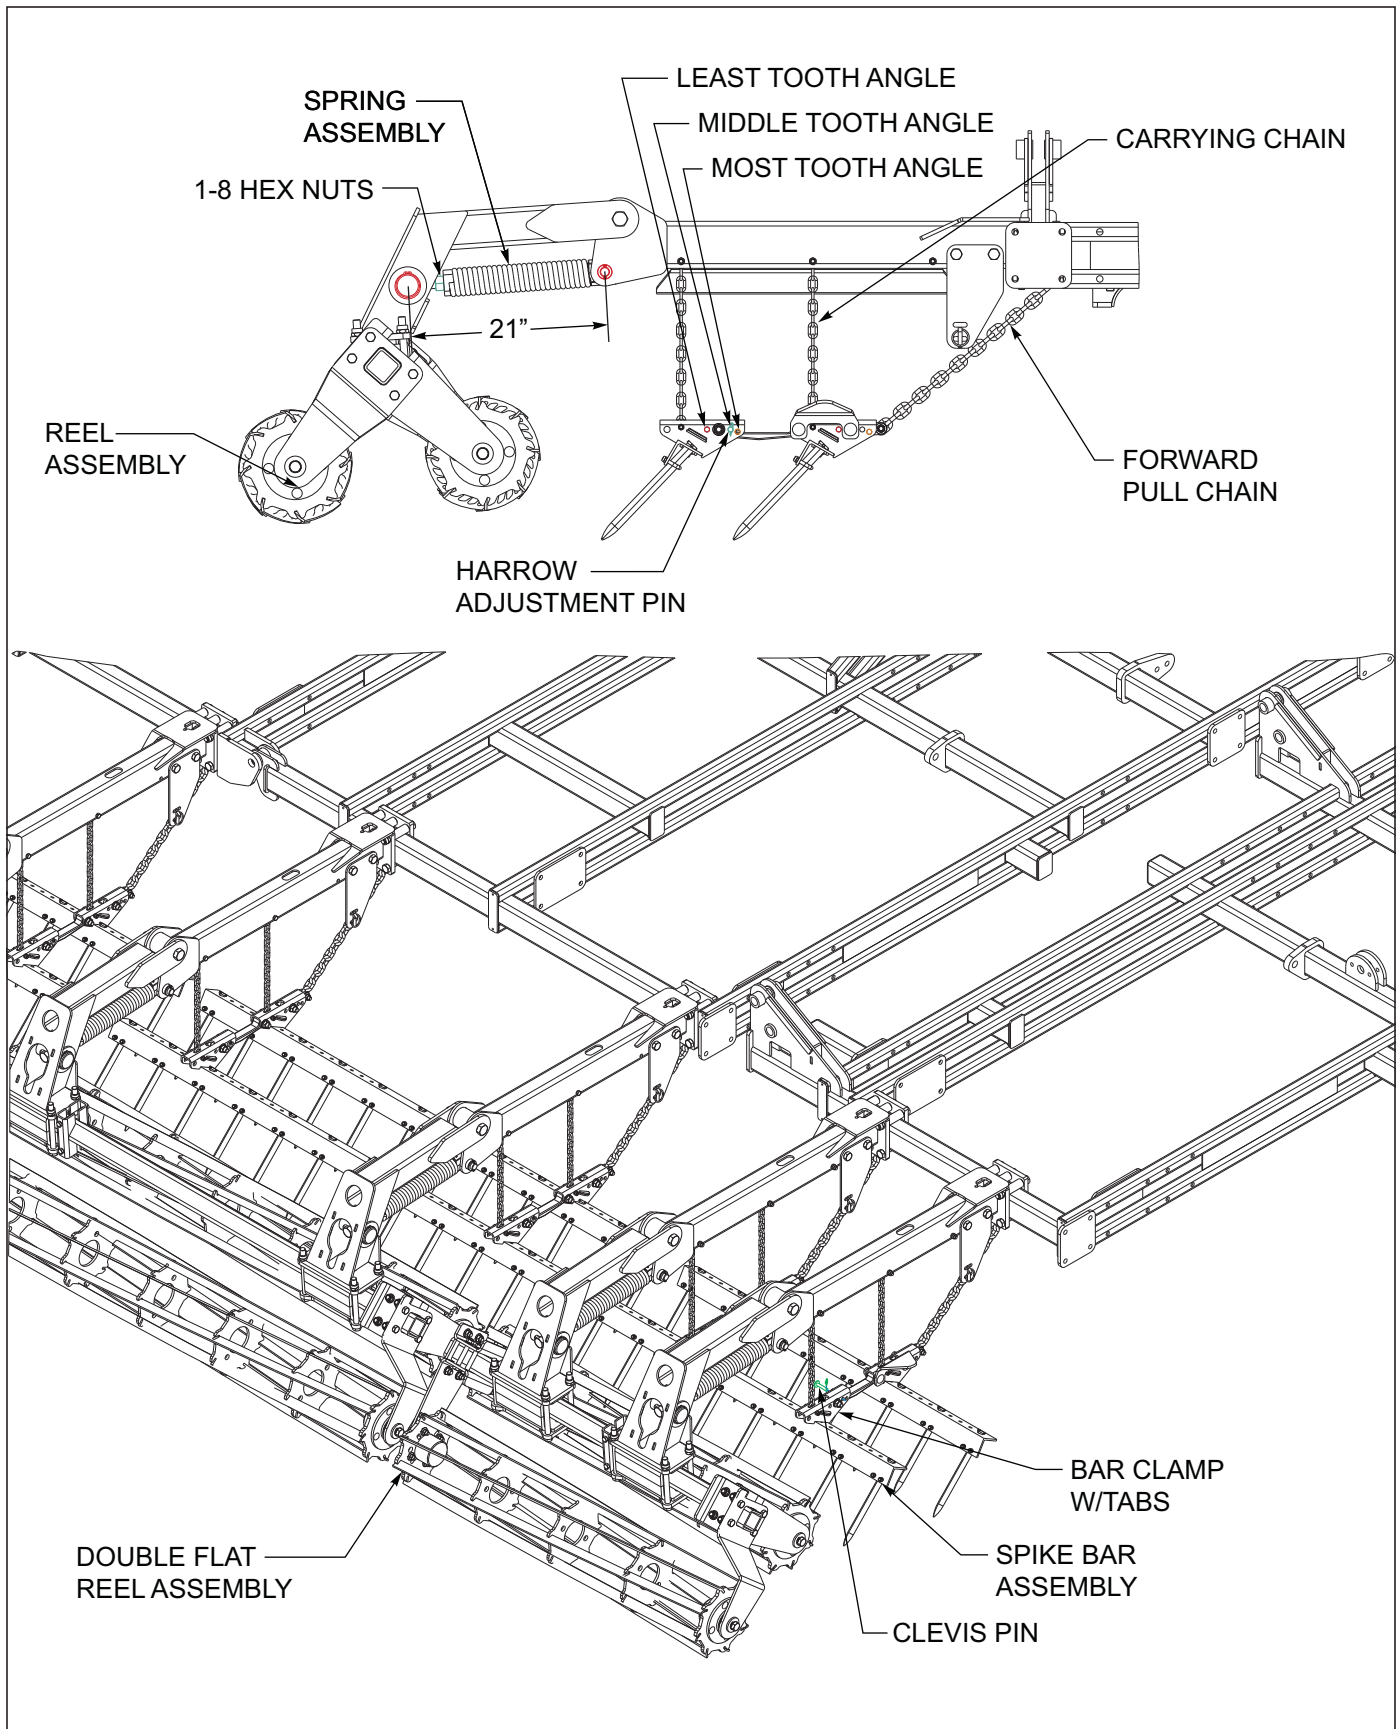

Figure 4-12: 2RS DBL Flat Reel Adjustments
3. For the most aggressive spike tooth action, install the harrow adjustment pin in the forward mounting hole over each bar clamp for each spike bar **See Figure 4-12**. This will position the spike teeth to be in the most vertical position. In wetter or conditions with some residue, lower the spike tooth angle by positioning the harrow adjustment pin in the middle or rear hole. This will allow the teeth to lay flatter and shed more residue.
6. Initially set the reel spring to the 21" dimensions as shown **See Figure 4-12**. Reels should be approximately even with the bottom of the sweeps. Operating the reels too low will cause the reels to push or plug. Excessive down pressure can hold the rear of the machine out of the ground. If operating in loose or sandy soil, may need to raise the reels to prevent pushing.